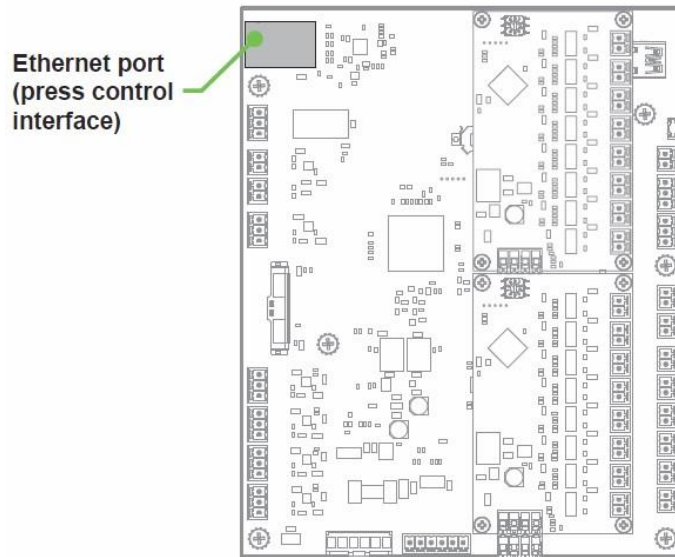

Figure 3. Unist SmartFlow® Controller Board Showing Ethernet Connector
1. Connect the Unist Controller to your Local Area Network via the RJ-45 port which is located on the top left of the circuit board (see Figure 3). Use a standard CAT-5 ethernet cable to connect to this port.